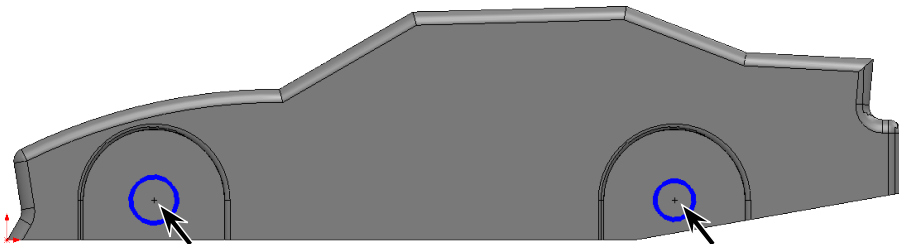

Fig. 38
Step 3. Click **Circle**  (S) on the Sketch toolbar.
Step 4. Draw **two circles** for the axle holes at centerpoint of wheel well arc, Fig. 38. Move cursor across wheel well and centerpoint will highlight.